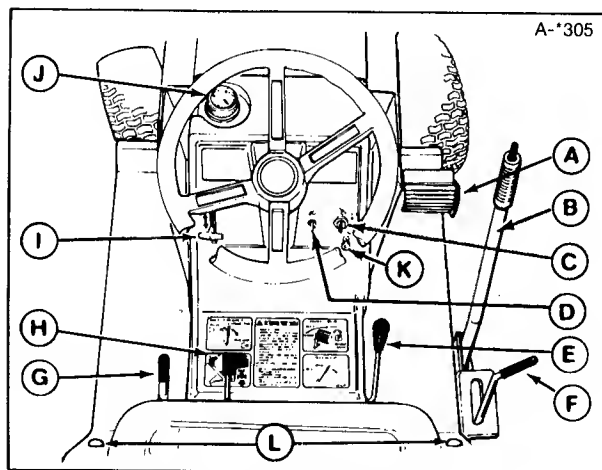

Figure 7. Tractor & Mower Controls
3. Using the mower height control lever (F, figure 7), place the mower in lowest